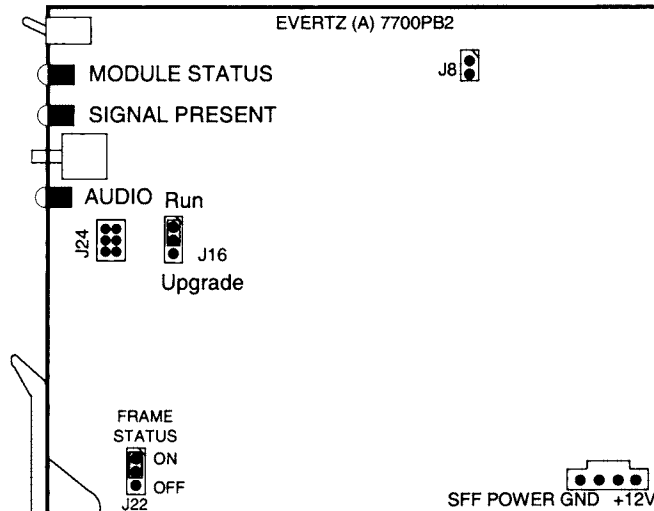

Figure 2 : Location of UPGRADE Jumper on Rev A and later 7700PB and 7700PB2 Boards
2. Connect the 7700PB Serial Upgrade cable to the 2 row x 3 pin header labelled J24 on the front edge of the 7700PB board as shown in Figure 2. Install the cable with the ribbon cable towards the front of the board.
3. Move jumper J16 to the UPGRADE position as shown in Figure 2.